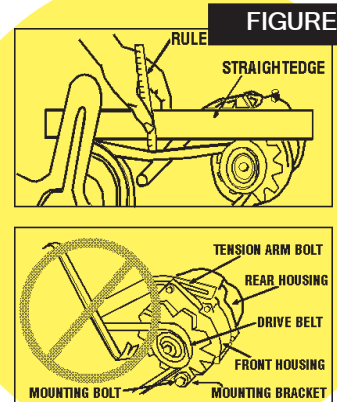

FIGURE 1
- ◆ Adjust belt tension and tighten belt tension bolt as illustrated in Figure 1. Do not use heavy tools to pry on alternator case; hand pressure is adequate. When an automatic tensioner system is **not** installed as is common with "V" belts, tension the belt to the engine manufacture's specification. This is typically half an inch of deflection.